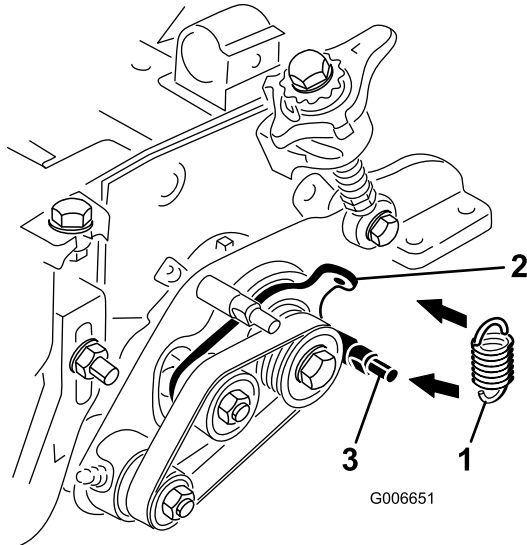

Figure 11
22. Hook the idler spring in the hole in the idler plate tab and around the groove on the groomer plate lower stud (Figure 11). The open end of the spring hook is to be positioned toward the drive pulley.